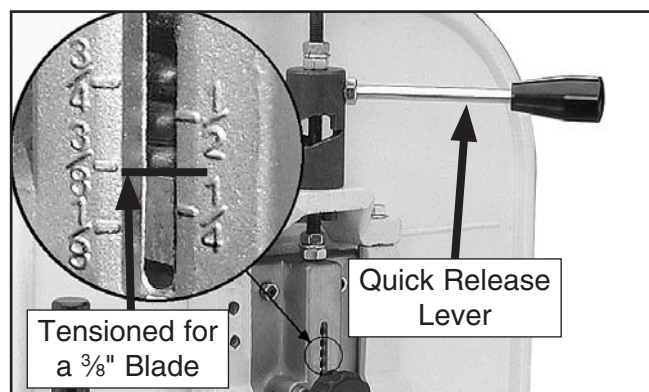

Figure 23. Example of tension applied for a $\frac{3}{8}$ " blade.
3. Move the blade tension quick release lever all the way right (as viewed from the rear of the machine) to apply tension to the blade (see **Figure 23**).
4. Use the tension knob on top of the bandsaw to bring the upper edge of the indicator block to the appropriate blade tension scale mark for the blade width (see **Figure 23**).